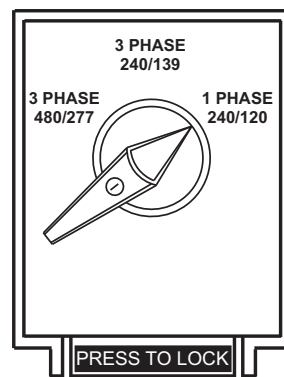

Figure 31. Voltage Selector Switch 1Ø-240/120V Position
1. Place the voltage selector switch in the 1Ø 240/120V position as shown in Figure 31.